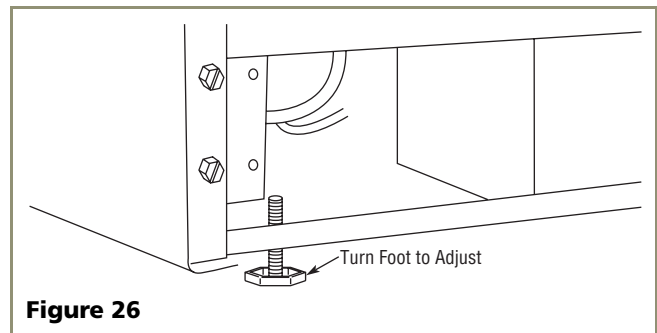

Figure 26
2. If the Wine Captain® is not level, adjust the feet on the corners of the unit as necessary (see **Figure 26**).